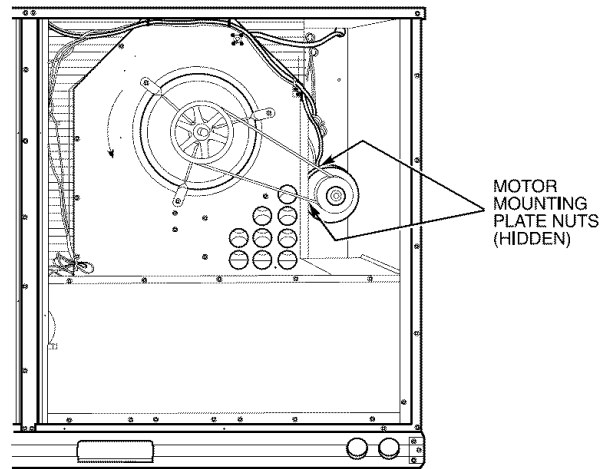

Fig. 39 — Typical Belt-Drive Motor Mounting for Size 012
- Size 012* — Slide the motor mounting plate downward to tighten belt tension ($1/2$ -in. deflection with 5 to 10 lb of force). Secure the motor mounting plate nuts. See Fig. 39.